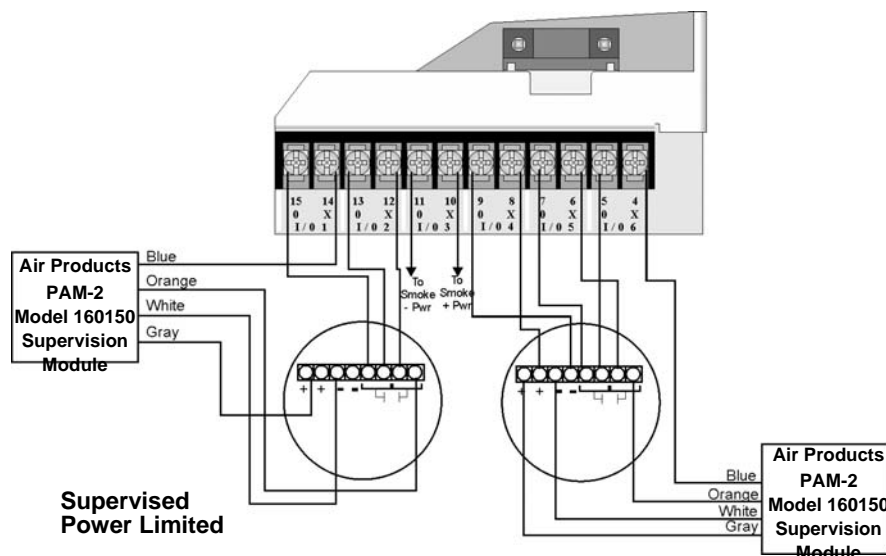

Figure 4-37 Class A 4-Wire Smoke Detector Connections
Figure 4-37 illustrates how to install a 4-wire Class A detectors.
- Smoke power is supplied to each Class A loop as shown in Figure 4-37.
Note: In programming any point that uses multiple Flexput circuits are always referred to as the lowest Flexput circuit number used. For example, Figure 4-37 uses Flexput circuits 1, 2, 3 together and 4, 5, 6 together. In programming (1, 2, 3) would be referred to as point 1, and (4, 5, 6) would be referred to as point 4.